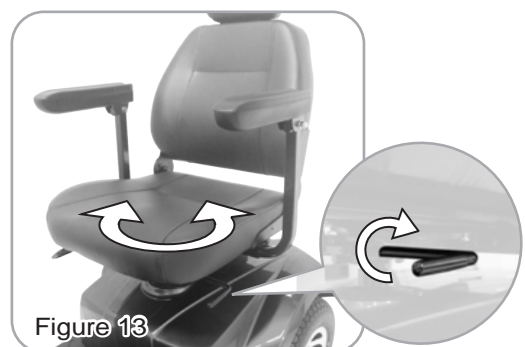

Figure 13
- Pull the swivel lever upwards to rotate seat left and right. (Figure 13)